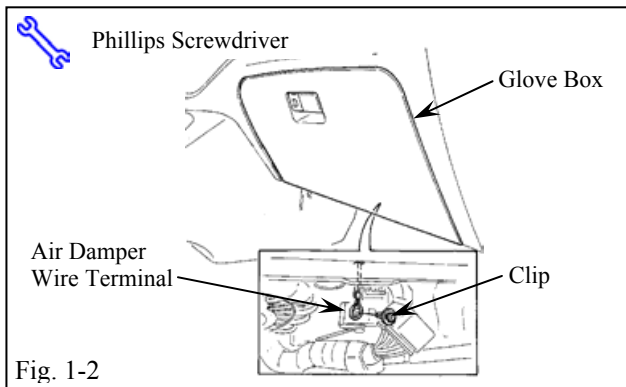

Fig. 1-2
- (b) Remove the air damper wire terminal from the bottom of the glove box. (Fig. 1-2)
- (1) Remove the clip securing the air damper wire terminal.